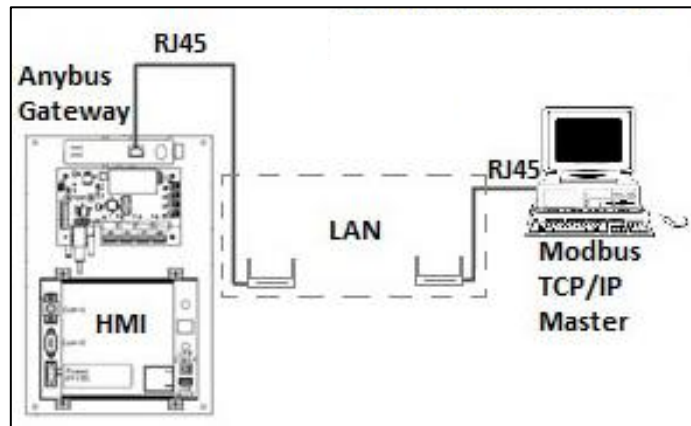

Figure 9.10: Network Setup with PC Example
- The network setup is displayed in Figure 9.10.